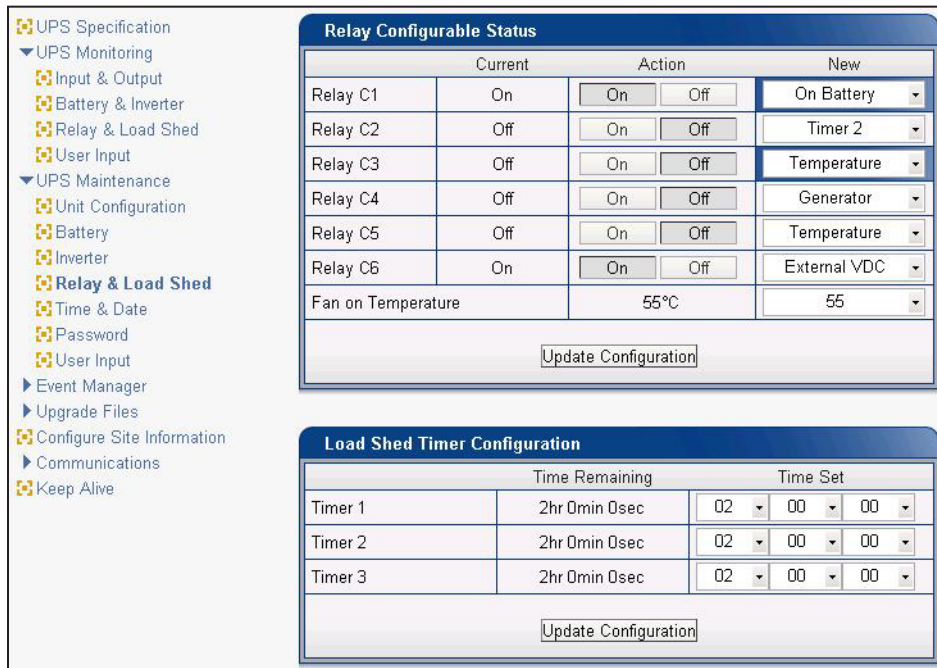

Figure 31 — Setting the Temperature trigger value
- Figure 31 shows the fan-on temperature threshold set at 55°C. To change this value, type the new value into the Fan On Temperature box (or use the up/down arrow keys) and click **Update Configuration** to update the current status display.